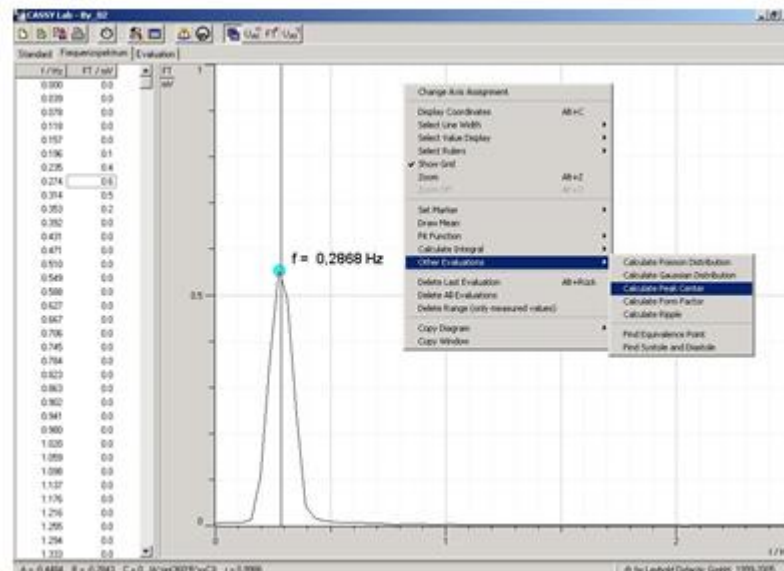

Figure 3: Determination of Frequency (Method II)
- Click right mouse button in the display and choose “Other Evaluations” / “Calculate Peak Center” (Fig. 3).
- Alt T allows you to display the result of the status line in the display (Fig. 3).
1. The experimental setup is illustrated in Fig. 3.